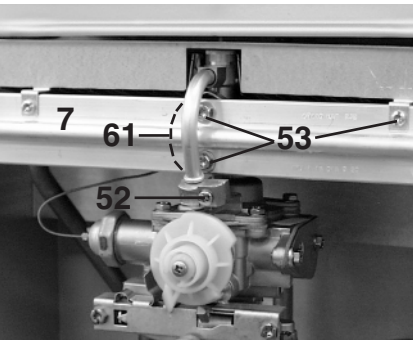

Fig. 16
**From natural gas to butan-propan and vice-versa** (fig. 16, 17, 18).
- Unscrew the pilot tube clamping screw (52) and remove pilot tube (8).
- Remove the burner manifold (7) by unscrewing the four screws (53).
- Disconnect at thermo-electric valve by undoing nut (54) and pull off the electrode cable (55).
- Unscrew the two screws (56) and pull burner forward to remove.
- Unscrew the four screws (57) and lift the gas section top off the base.
- Unscrew the complete valve box (58).
- Replace the gas section top on the base and screw the four screws (57).
- Replace the burner and screw the 2 screws (56).